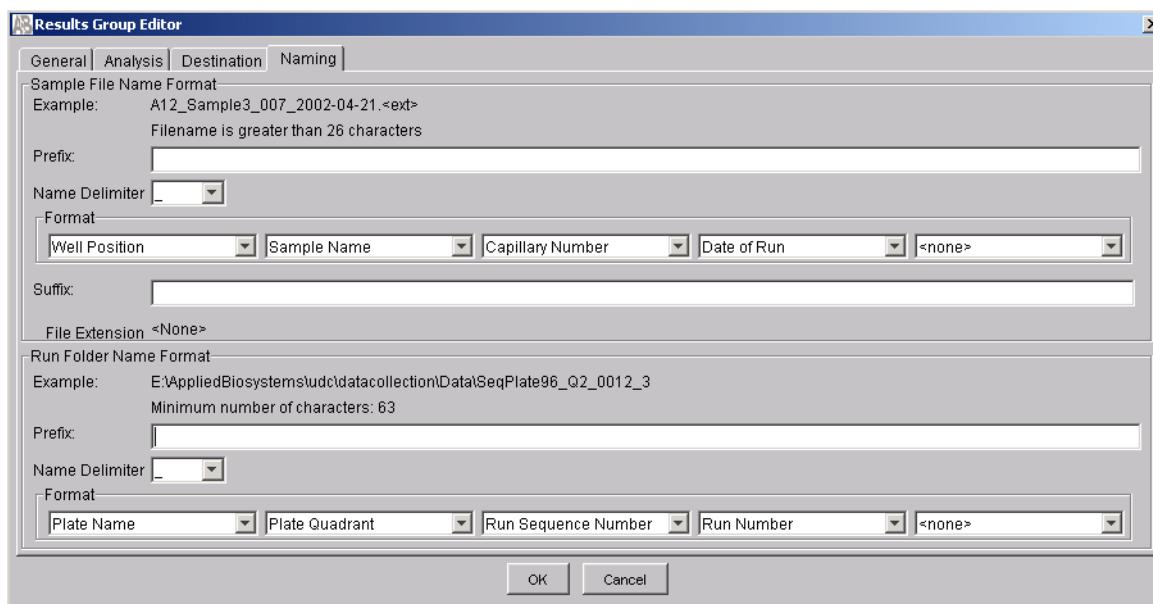

Figure 3-2 Results Group settings for 3730 instruments running 48-capillary arrays
3. Complete the information in the tab as shown in Figure 3-2 and Table 3-1.
Figure 3-2 shows the Results Group Editor for a sample Results Group used with 3730 instruments running a 48-capillary array. Note that for instruments running 96-capillary arrays, the Run Sequence Number is unnecessary.